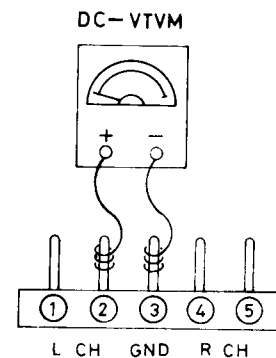

Fig. 14A
2. Connect ground lead of DC VTVM to pin 3 (pin 3) and connect probe of DC VTVM to pin 2 (pin 4). Refer to Fig. 14A.